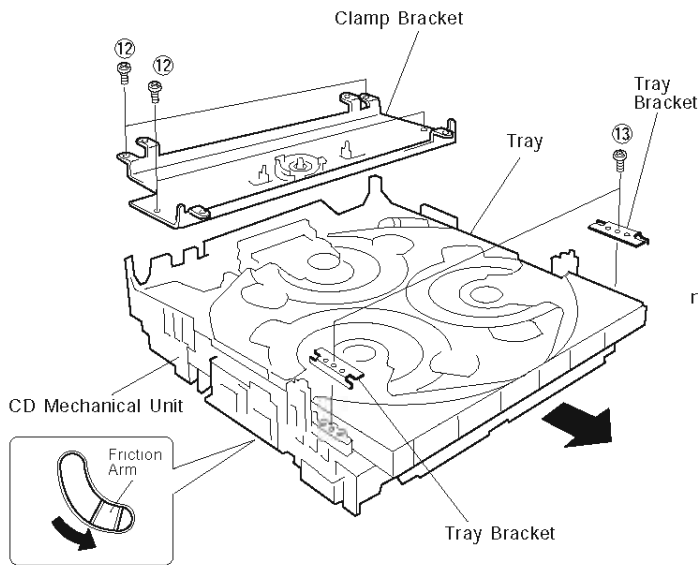

Fig. 10
- Remove 4 screws (12) and then remove the Clamp Bracket in Fig. 10.
- Remove 2 screws (13) and then remove the Tray Brackets in Fig. 10.
- Push the Friction Arm (the bottom side of the CD Mechanical Unit) with a screwdriver or the like and pull out the Tray forward as in Fig. 10.